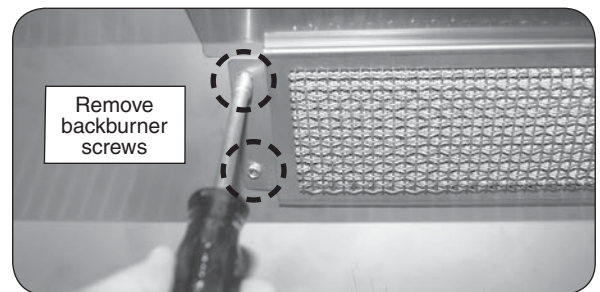

Fig. 34-3 Remove backburner mounting screws
2. Remove the backburner mounting screws (1/4" hex) located at the left end of the backburner assembly (see Fig. 34-3).